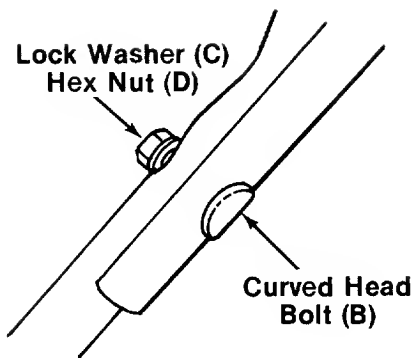

FIGURE 3.
4. Place upper handle in position over lower handle. Control housing should be on the **left** side of the handle. Secure upper handle with two curved carriage bolts (B), lock washers (C) and hex nuts (D). See figure 3.